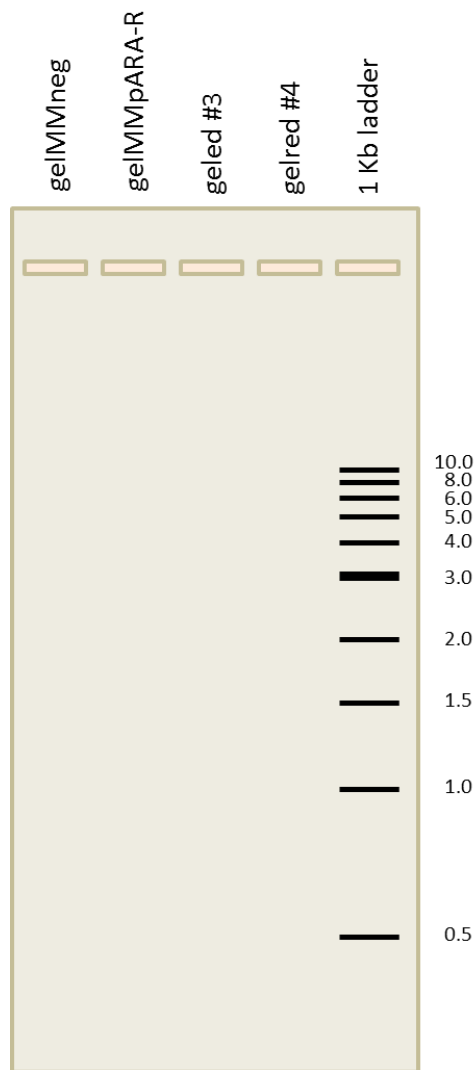

Figure 7a.3 The DNA ladder diagram.
10. Make a drawing in your notebook that shows the location of the samples in wells in the electrophoresis box. A suggested order for loading the samples into the wells is shown in Figure 7a.2. If four groups share an 8-well gel, there will be space for two wells containing 1 kb DNA ladder and the two samples prepared by the teacher.
4. The DNA ladder serves as a standard because it contains a mixture of DNA molecules of known sizes. By running your samples and the DNA ladder side by side in your gel, you can estimate the actual size in base pairs of unknown DNA molecules. The DNA ladder diagram below shows 10 DNA bands of known sizes. Their sizes are given in kilobase (kb) pairs. 1 kb is 1,000 base pairs (bp). On the diagram predict the positions of DNA bands produced from the gelMMpARA-R and gelred tubes by drawing them on the DNA Ladder Diagram (figure7a.3).